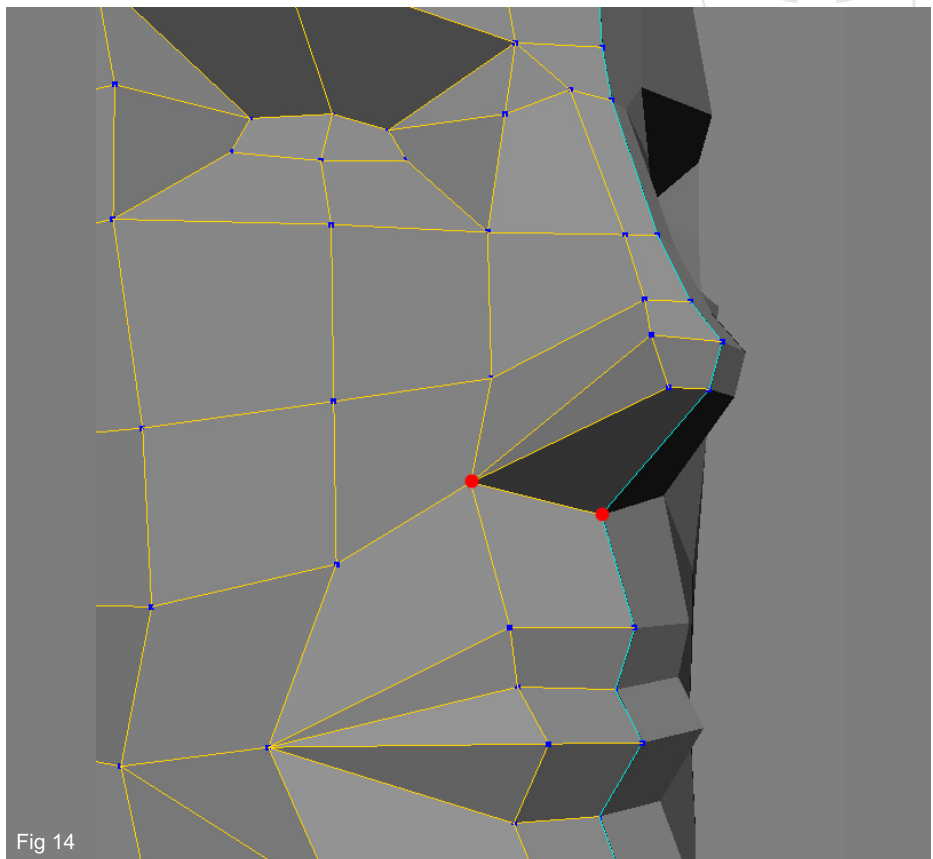

Fig 14
14. Still in the nose area, weld the vertices marked in red in Fig14 to their neighbours, and improve the shape of the nose: